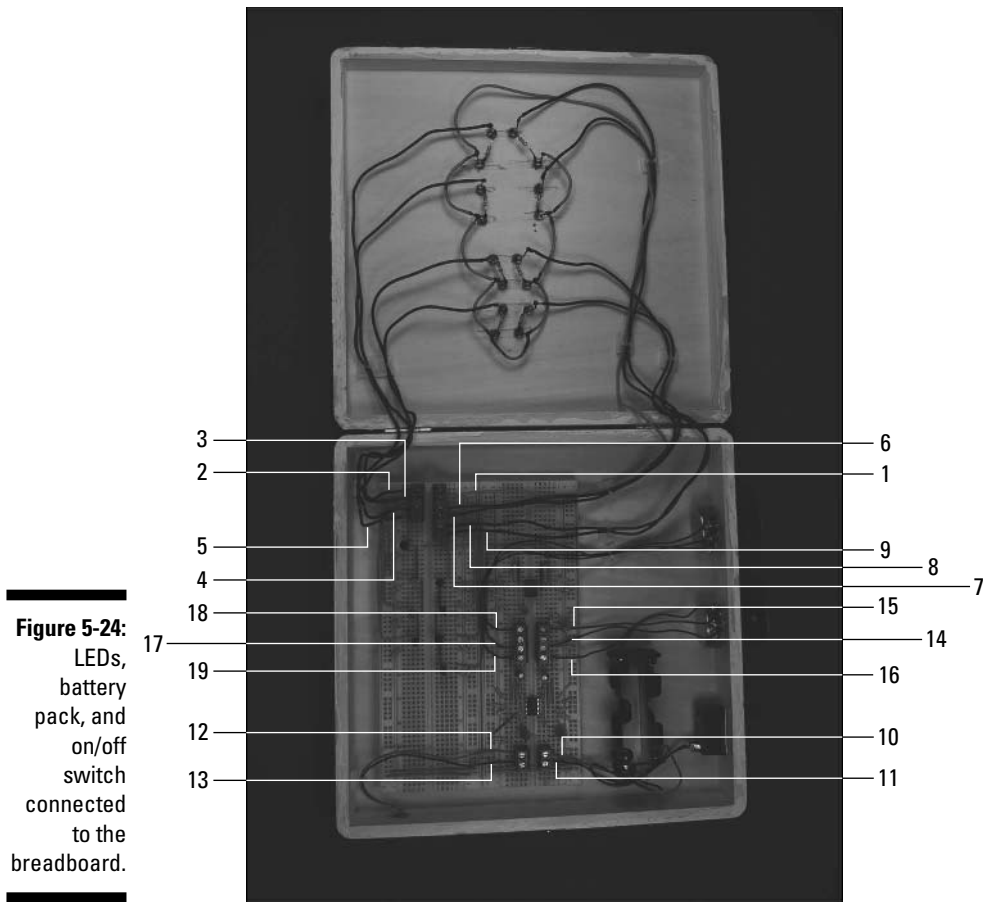

Figure 5-24:
11. Insert the wires from the LEDs, battery pack, and the on/off switch to the terminal blocks on the breadboard, as shown in Figure 5-24.
Use the following as a key to the numbered callouts in Figure 5-24.